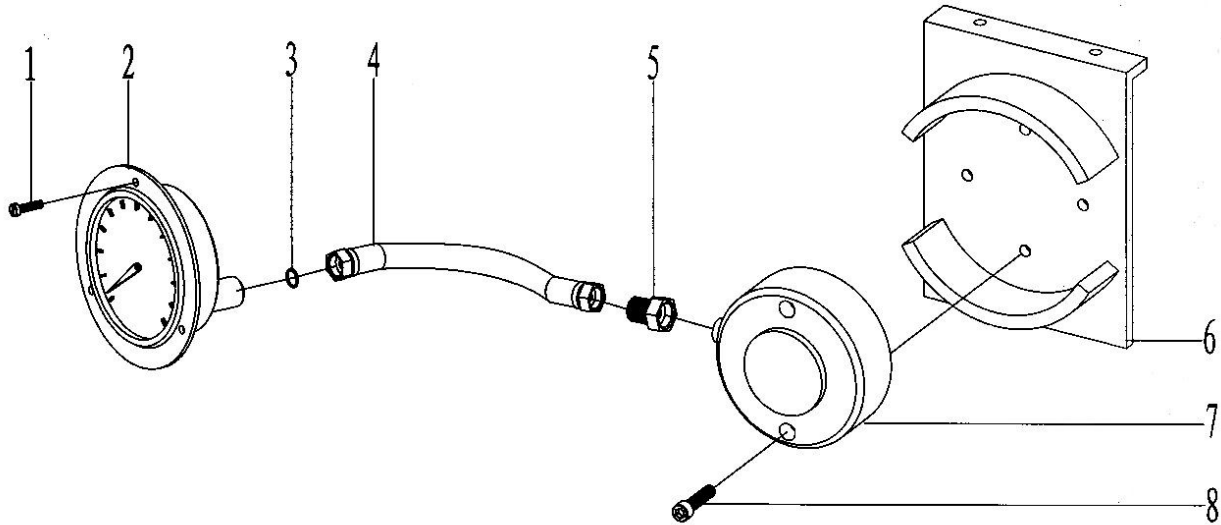

Fig .28
10. Torque testing assembly (Fig28, Table25)